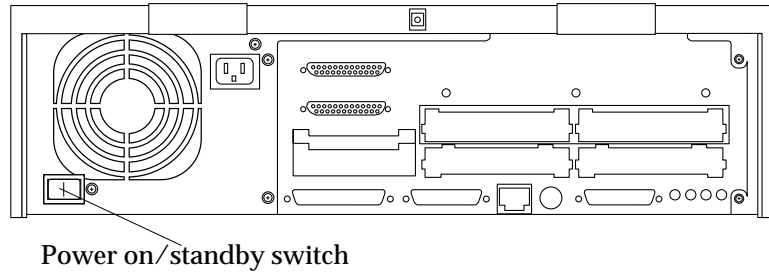

Figure 2-1 Rear View of an Ultra 2 System
6. Place the power on/standby switch to standby (⏻) (Figure 2-1).